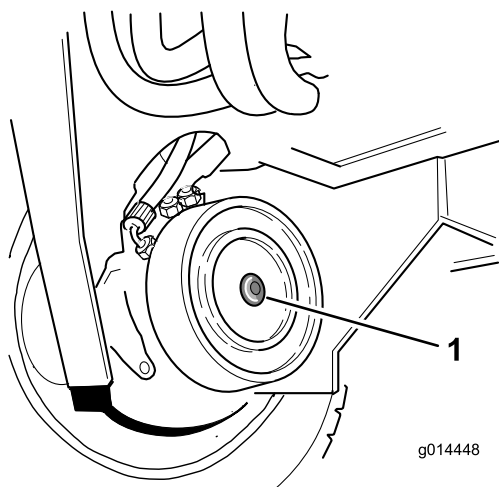

Figure 51
2. Identify the right-hand front wheel motor disc brake assembly and remove the hex plug (Figure 51).